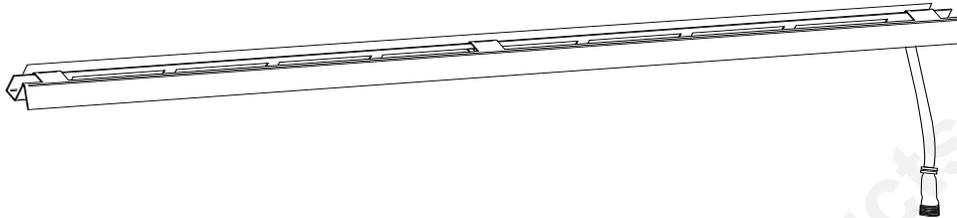
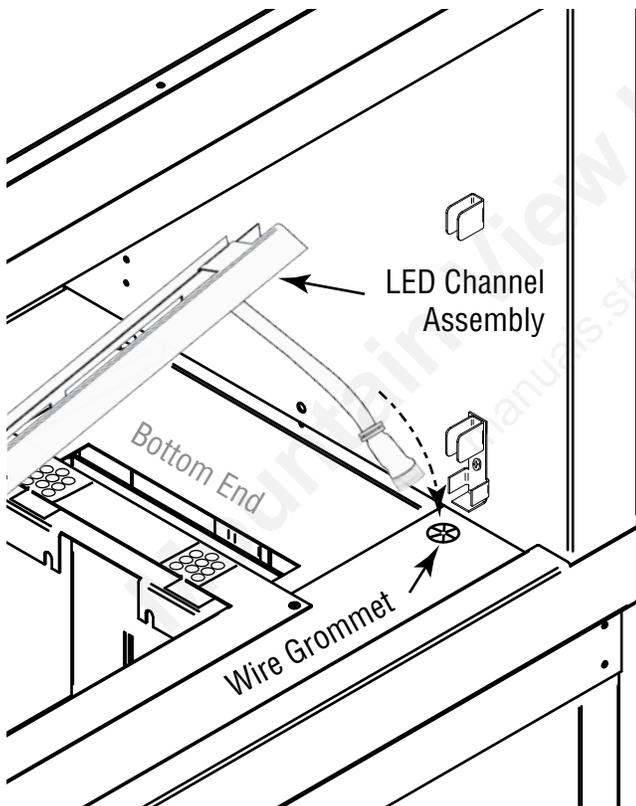

Figure 20 - Shows LED right channel
Figure 21 - Installing LED lights and channel
Step 5: Remove the LED right channel assembly from the carton (The front of the channel has a shield facing the front with the LED wire hanging on the right side). See **Figure 20** and **Figure 21** for details. **NOTE:** If you are installing into a see-through fireplace you will install both right and left channels assemblies.
Step 6: Carefully push the LED channel assembly connector through the wire grommet. As you push it through the grommet sit the channel into the retainer clip. Ensure the other end of the channel is also sitting inside the other retainer clip. See **Figures 21 and 22** as a reference. **NOTE:** If you are installing into a see-through fireplace install the other LED light strip and channel the same direction.